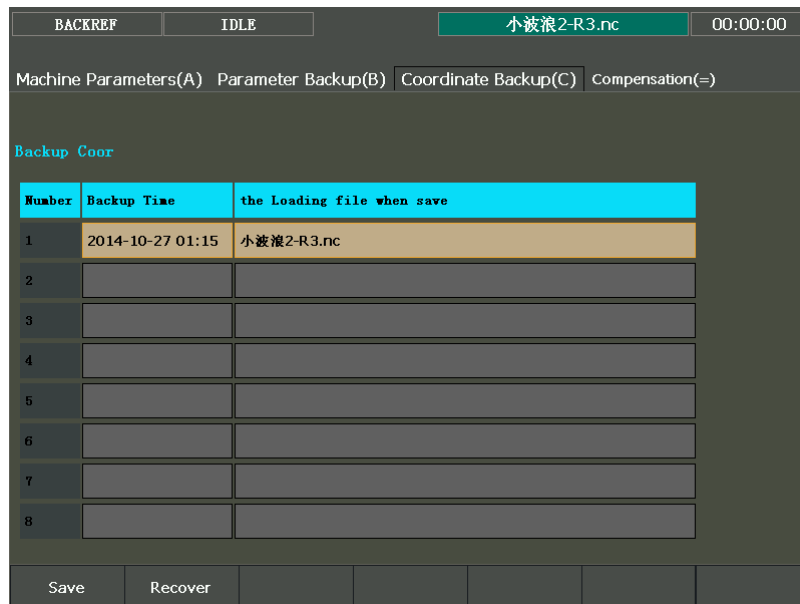

Fig. 3-77 Coordinate backup interface
[Coordinate Backup (C)] screen under [Parameter] function section is as shown in Fig. 3-77.